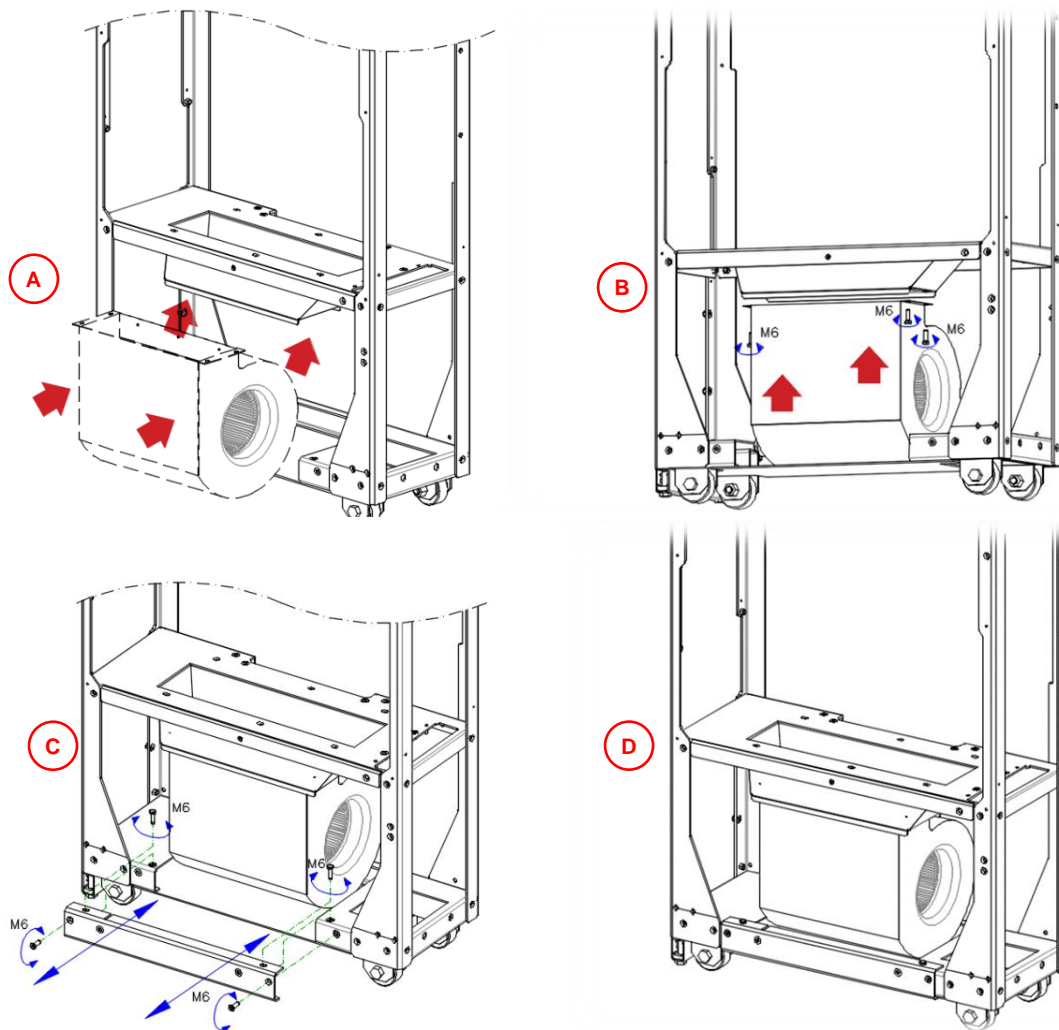

Fig. 5-2: Cooling fan for SDx.2 frame – Replace/Mounting steps
Normally the frame has to be pulled out from the cabinet because of the little space available. Mounted fan is shown in Fig. 5-2.D.
- Disconnect the bar on the lower-left side removing the two M6 screw (Fig. 5-2.C)
- Unscrew the four screw on the top of the fan (lower side of the DPM, Fig. 5-2.B)
- Carry out the fan from the frame (Fig. 5-2.A)
- Put the new fan inside the frame into the lower part of the module (Fig. 5-2.A)
- Fix the fan screwing the four screw (Fig. 5-2.B)
- Connect the bar on the lower-left side (Fig. 5-2.C)